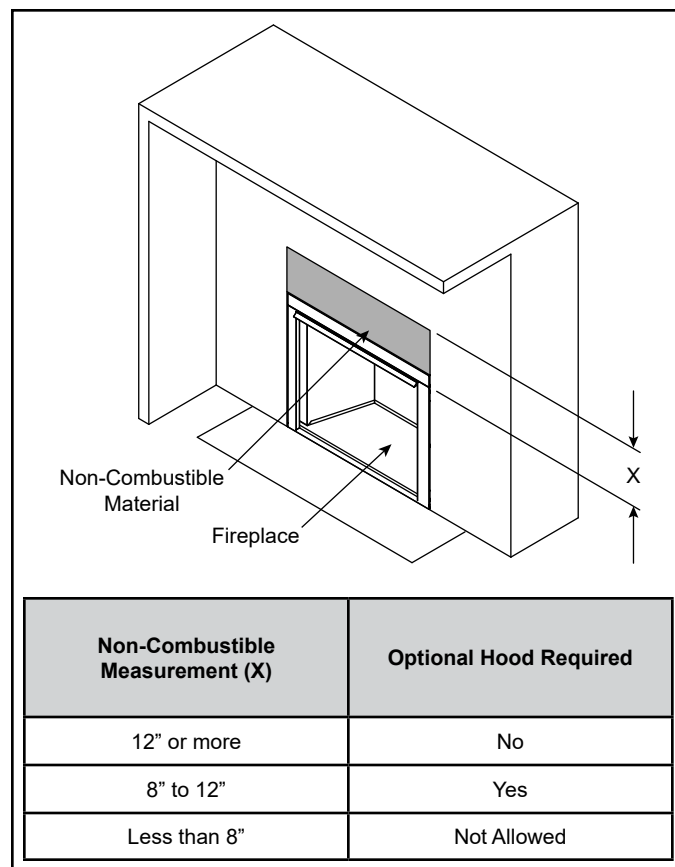

Figure 5.2 Wall Clearances Above the Fireplace
- Non-Combustible materials are required above the fireplace opening. See Figure 5.2.